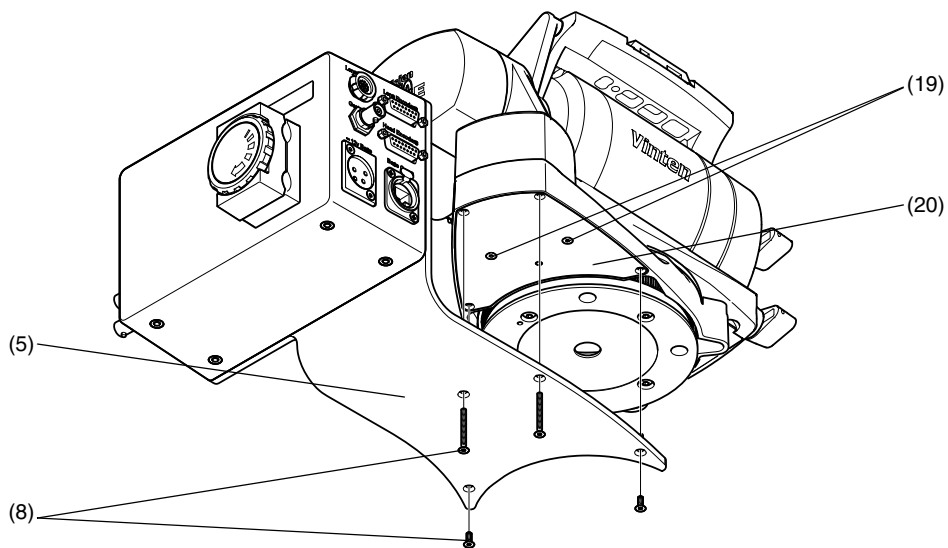

Figure 3 Fitting to a Vision 250E head
If fitting the HPM to a Vision 250E head (Figure 3), proceed as follows:
Leave the pan encoder plate (20) in place and position the head mounting bracket (5) on top as shown in (Figure 3).